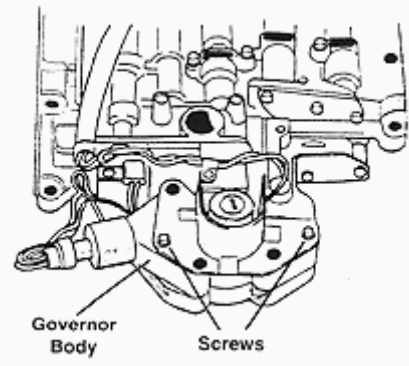

Figure 13
**Step 16** 42RE only — All others skip to Step 18. Install governor body, gasket and retainer plate onto transfer plate. **(See Figure 13)** Align the screw holes in the governor body, gasket, and transfer plate and install two (2)-retaining screws. Torque the screws to 35 in. lbs. Connect the wiring harness to the governor pressure solenoid, using care not to bend the terminals. Connect the wiring harness to the pressure sensor.